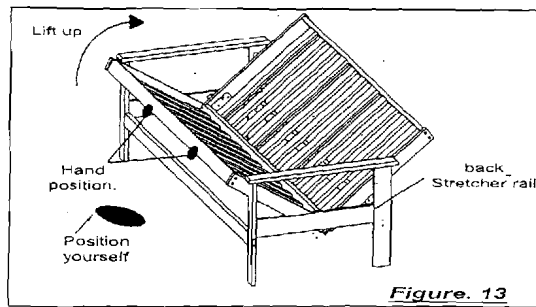

Figure 13
2. Standing in the middle of the frame, lift up the seat deck until the back deck rest on the back stretcher rail. (figure 13).